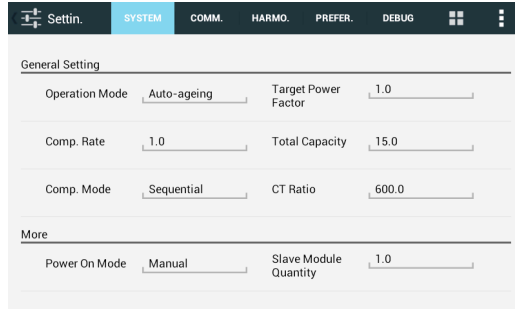
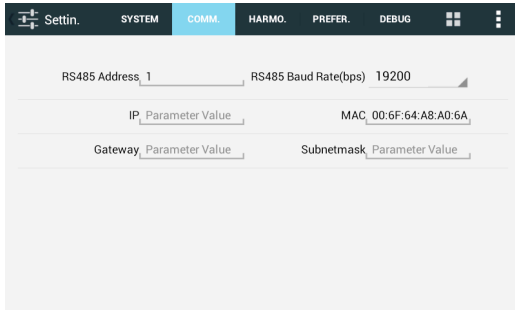

Figure 6-8 Interface of system setup
Figure 6-9 Interface of communication setup
- ◆ Click “SYSTEM” button in the title bar to enter the login interface of setting, and input password to enter the interface of system setup. “SYSTEM” is displayed in Figure 6-8, Operation Mode, Power On Mode, CT location, Slave Module Quantity and Total Capacity can be set up;
- ◆ Click “COMM.” button in the top of Figure 6-8 to enter the interface of communication setup, as shown in Figure 6-9.